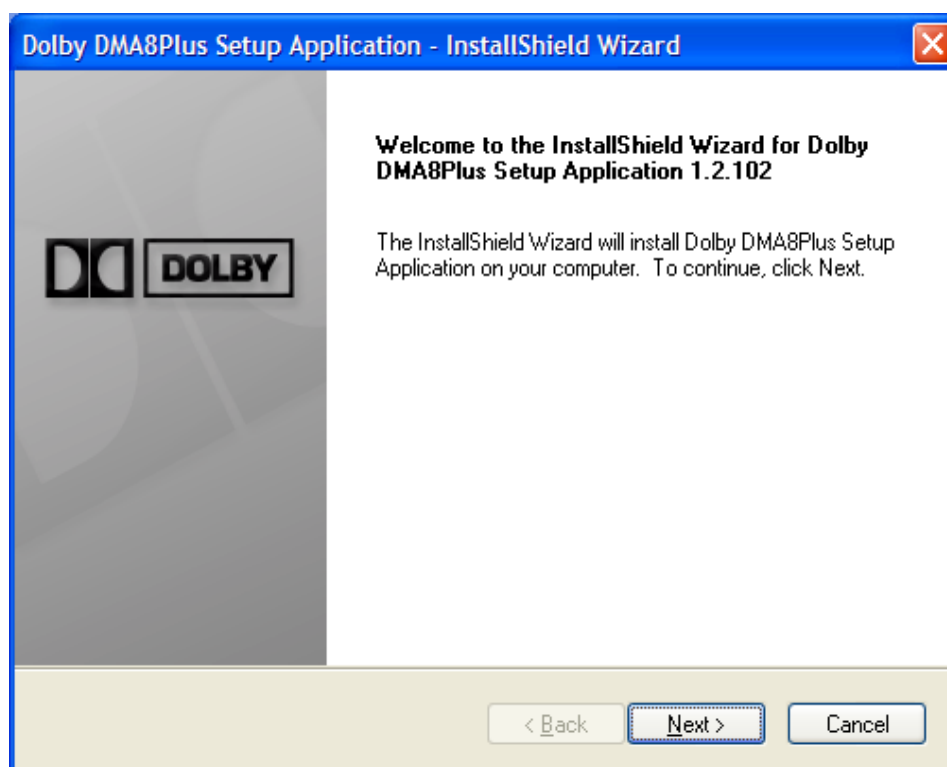

Figure 3-1 Installation Welcome Screen
1. Run the DMA8Plus installation program to install the setup software on your PC. The welcome screen appears, as shown in Figure 3-1.